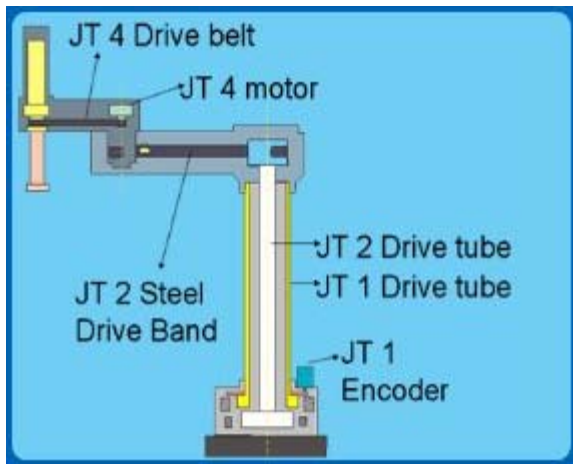

Figure 3.2.5 -SCARA Robot.
- SCARA robot – This also has a cylindrical work space. RRP main body. Such robots were used to assemble the SONY walkman. The “P” is for raising and lowering the end effector. Otherwise all the motion is in a horizontal plane. (See Figures 3.2.5)